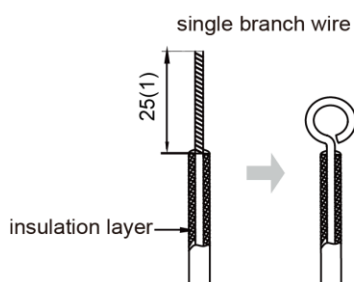

Fig. 5.1.1
- (1) The connection of wire (as shown in Fig. 5.1.1)